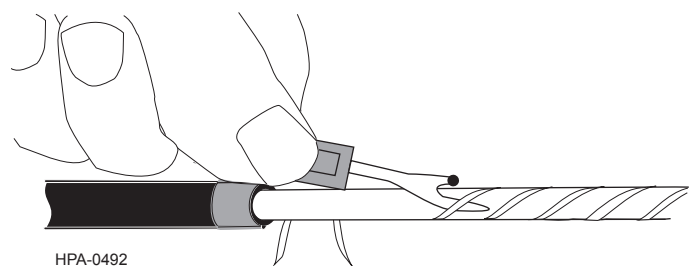

Figure 8
Step 1: Use a seam ripper every 2 in (5 cm) to cut the single binding tape that secures the water blocking tape to the cable core (Figure 8).